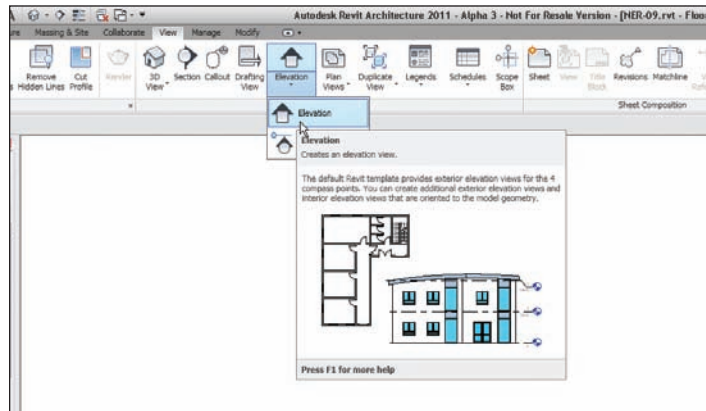

FIGURE 3.75 The Elevation button on the View tab
1. On the View tab, click the Elevation button, as shown in Figure 3.75.